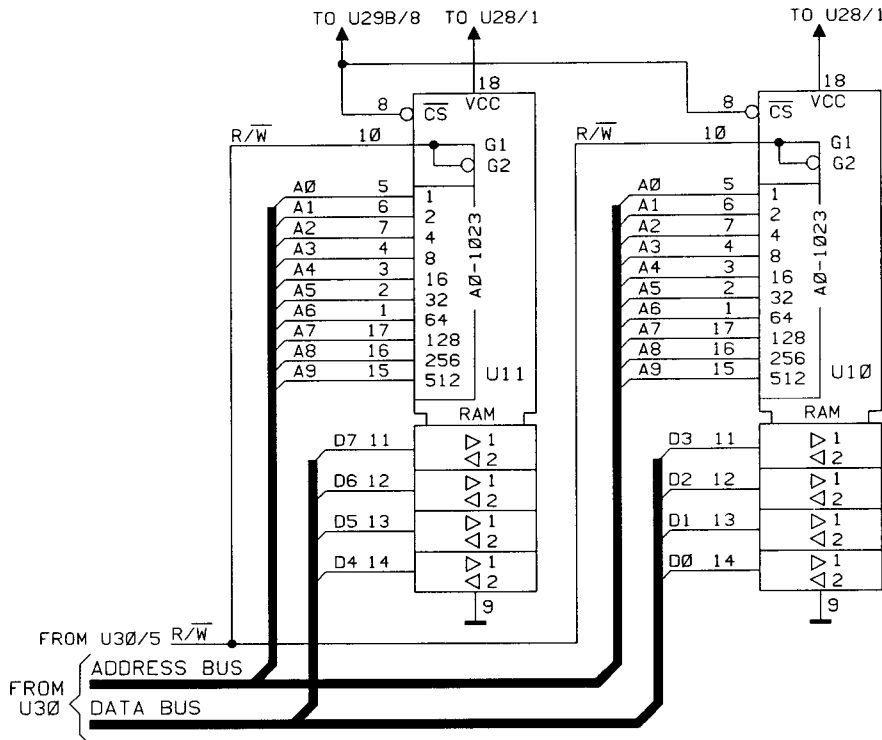

Figure B-3. 08116-66523: U10, U11 schematic
- Figure B-3 shows the RAM circuit on the microprocessor board 08116-65523. Modify Chapter 10.7, Figure 10.7-5 accordingly.